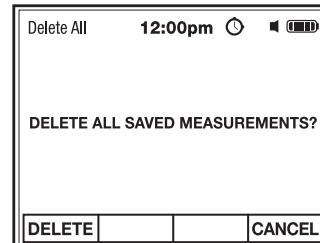

Fig. 20
2. Press the F1 DELETE soft key to delete ALL SAVED MEASUREMENTS (Fig. 20).
3. Press the F4 CANCEL soft key to return to Measurements without deleting (Fig. 20).